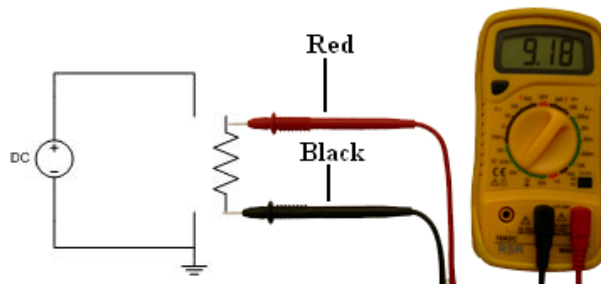

Figure 2.5: Measuring Resistance
3. To measure resistance, the component being measured must be removed or the power source must be disconnected, and place the ohmmeter in parallel with the component. See Figure 2.5